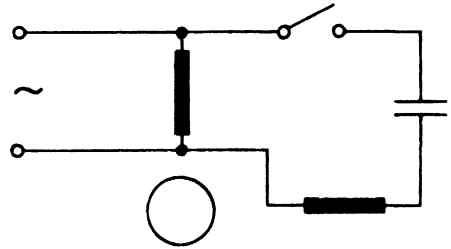

Fig. 1
1. The capacitor is used only to produce a start rotating field and is disconnected by for example a centrifugal switch when the motor speeds up. Fig. 1. The motor continues to run on the rotating field which has arisen by means of the combination of the stator winding and the rotating rotor. When the capacitances are high enough the starting torque can reach 200% of the full load torque.